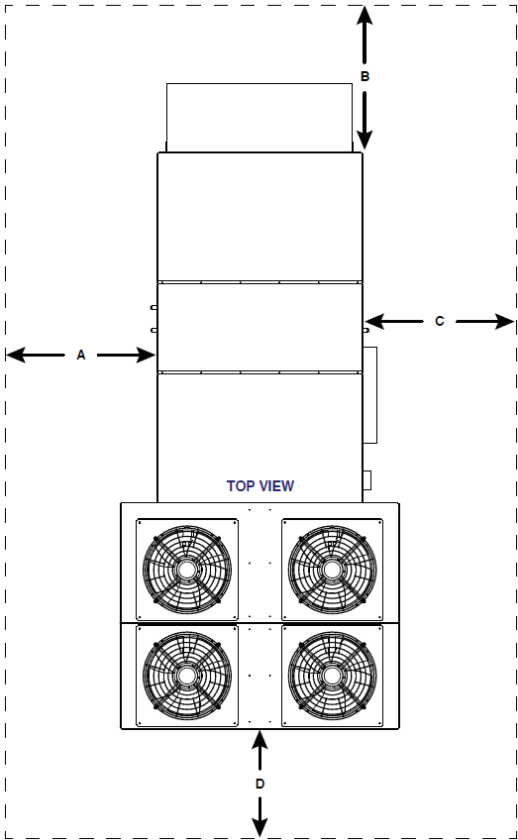

Fig. 2 — Required Clearances
- Do not locate adjacent unit condenser sections closer than 6 ft to one another to reduce the possibility of condenser air circulation. Follow the minimum required clearances listed above or in Fig. 2 and Table 1, whichever is greater.
Clearances are the required distances that the unit must be away from objects and other units to allow service access and proper operation of the unit. See example in Fig. 2.